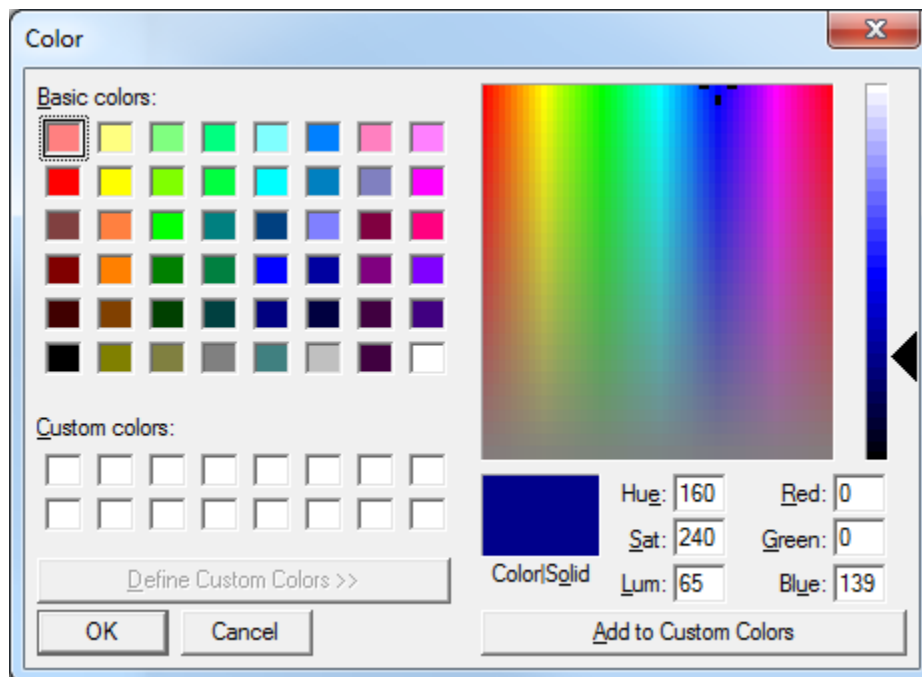

Figure 3-33–Color Preferences Selector
- **Change Colors** (see Figure 3-33): This option allows the operator to change the colors of individual map components. As the colors are selected, the colors selection will be displayed.